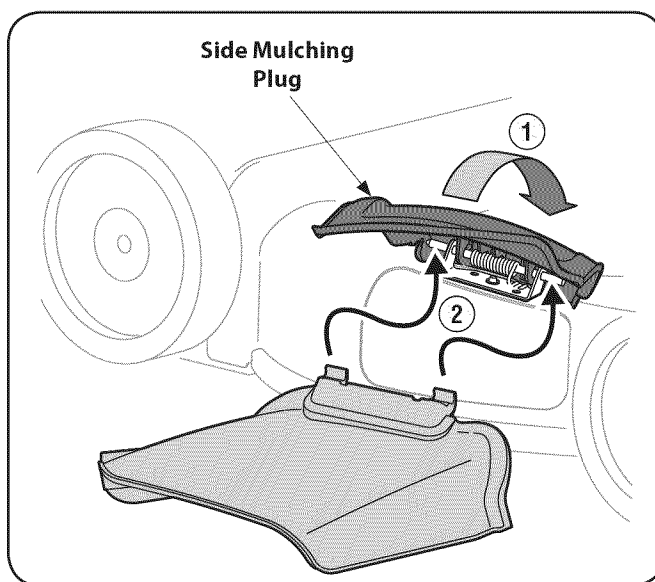

Figure 3-8
1. On the side of the mower, lift the side mulching plug. See Figure 3-8.